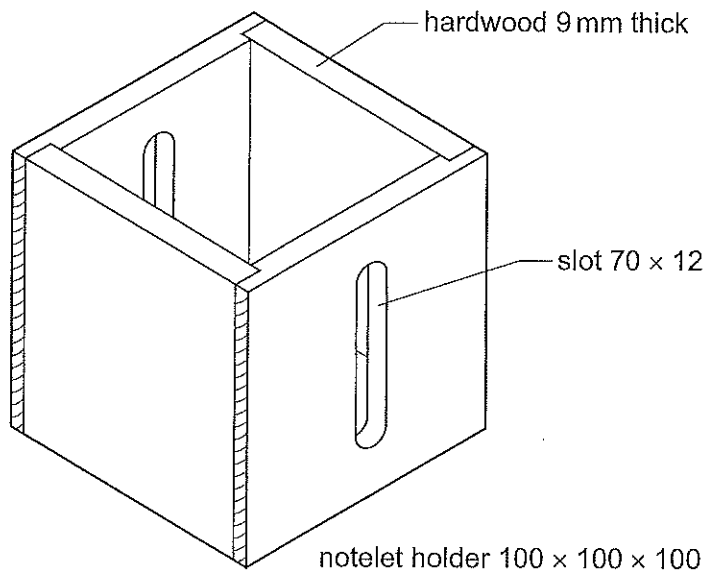

Fig. 10
- 7 Fig. 10 shows a notelet holder made from hardwood.